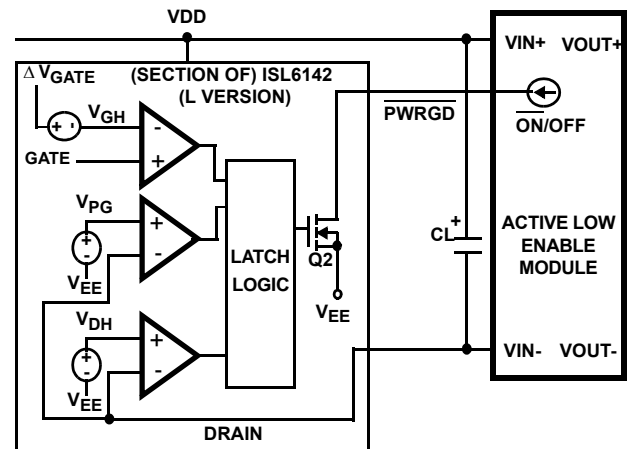

FIGURE 34. ACTIVE LOW ENABLE MODULE
**ISL6142** (L version; Figure 34): Under normal conditions (DRAIN voltage -  $V_{EE} < V_{PG}$ , and  $\Delta V_{GATE} - V_{GATE} < V_{GH}$ ) the Q2 DMOS will turn on, pulling  $\overline{PWRGD}$  low, enabling the module.
a high enough input voltage (remember that current through the RPG 6.2k $\Omega$  resistor generates the high voltage level; see Figure 34).